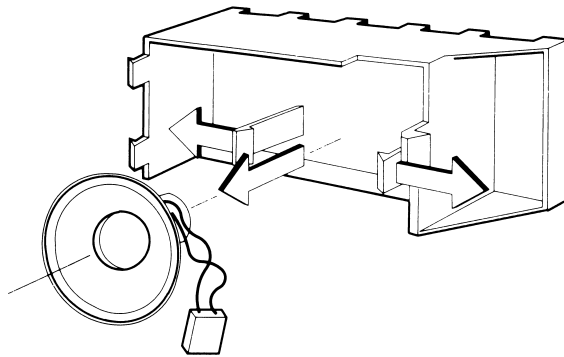

Figure 7-29. Removing the Speaker Assembly.
6. Carefully disconnect the switch connector and speaker connector (COMPAQ DESKPRO 286) and remove the speaker assembly (Figure 7-29).